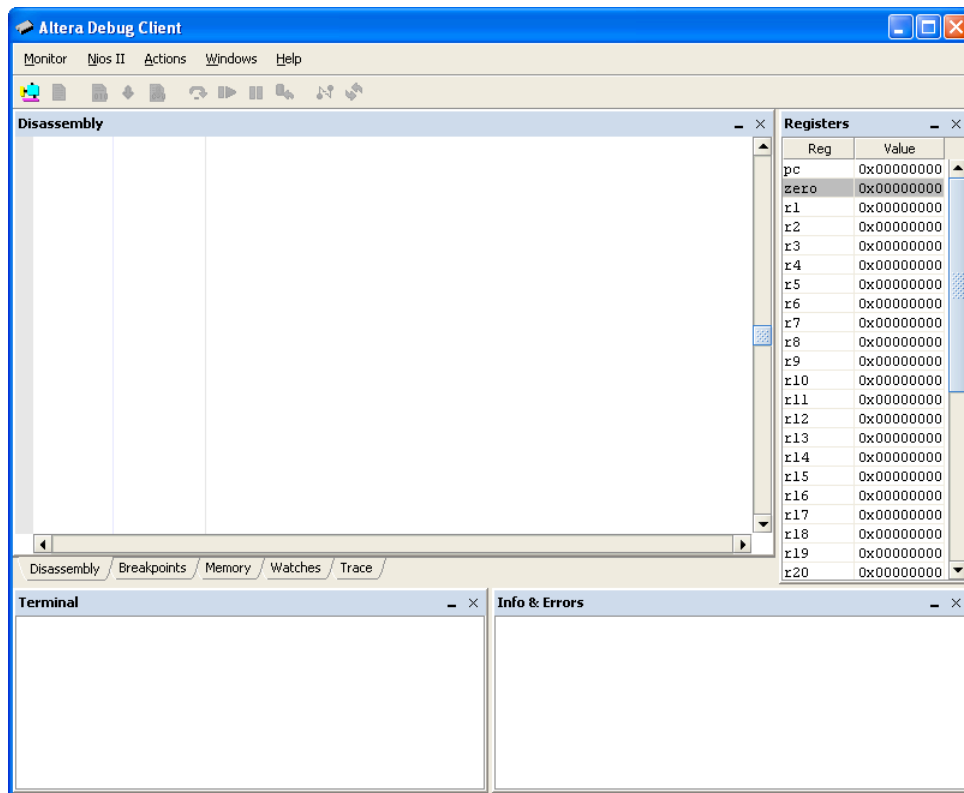
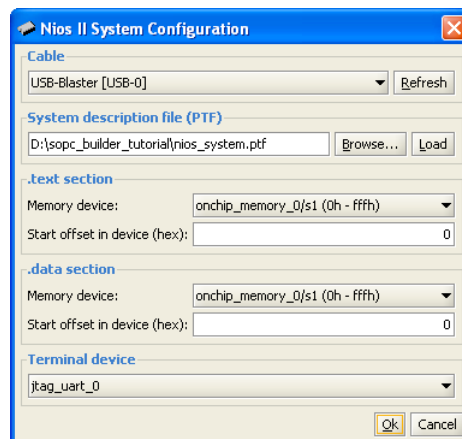

Figure 20. The Altera Debug Client window on startup.
Figure 21. The Nios II System Configuration window.
Open the Altera Debug Client, which leads to the window in Figure 20. This software needs to know the characteristics of the designed Nios II system, which are given in the ptf file `nios_system.ptf`. Click the **Nios II > Configure system...** menu item to display the Nios II System Configuration window, shown in Figure 21, and perform the following steps:
4. The Altera Debug Client also needs to know where to load the application program. In our case, this is the memory block in the FPGA device. The SOPC Builder assigned the name `onchip_memory_0` to this block. As shown in Figure 21, the Debug Client has already selected the correct memory device.